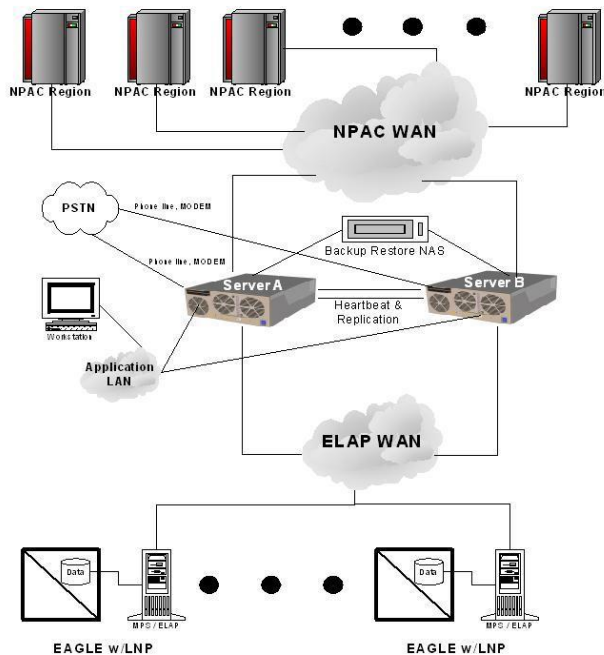

Figure 13 - LSMS Network
LSMS provides a series of network connections to enable it to interact with NPACs, EMSs, and remote consoles. Refer to Figure 13 - LSMS Network. The following sets of network connections can be made to your network:
- » NPAC - Depending on your network configuration, a 100BASE-TX Ethernet interface that typically connects to an external WAN. This interface provides connectivity to one or more remote NPAC sites. These connections are shown going to the NPAC WAN in Figure 13 - LSMS Network.
- » Application -- Depending on your network configuration, a 100BASE-TX Ethernet interface that typically connects to your site's internal LAN or secure WAN. This interface provides connectivity for workstations that use the optional IP User Interface. These connections are shown going to the Application WAN in Figure 13 - LSMS Network.
Administration LAN in Figure 13 - LSMS Network.